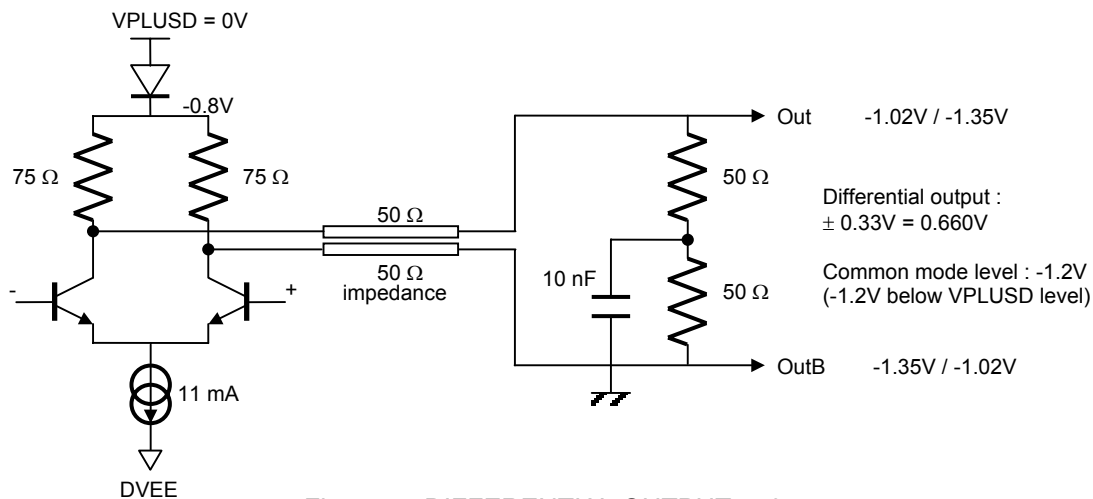

Figure 4 : DIFFERENTIAL OUTPUT : 50 Ω TERMINATED
2) 50 ohms impedance transmission lines, 50 ohms differentially termination (Fig. 4) :